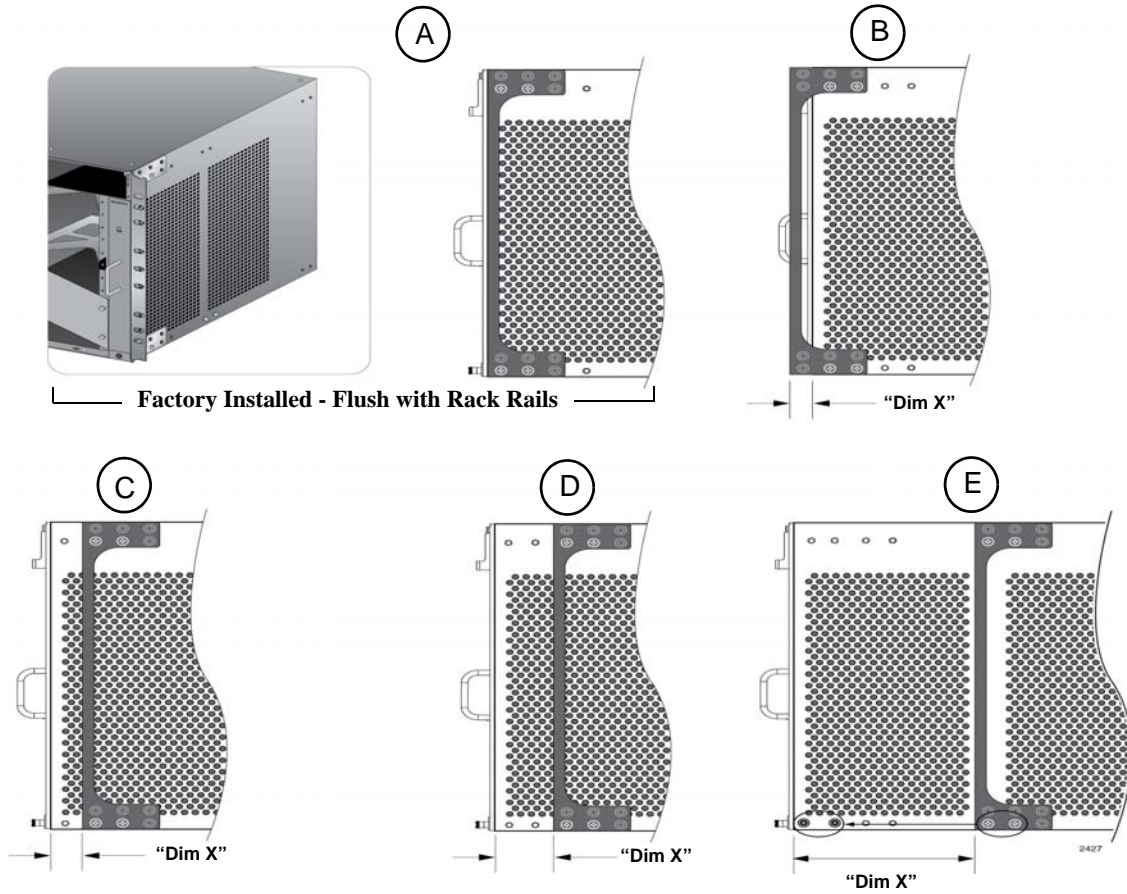
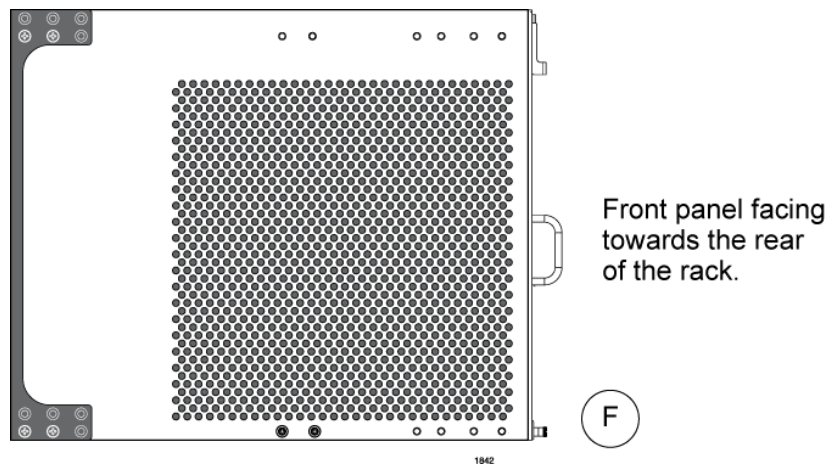

Figure 37. Rack Mounting Bracket Locations
Figure 38. Rack Bracket Locations for Reverse Position of Chassis
You adjust the brackets by removing them and re-installing them in different positions on the sides of the chassis. The different bracket positions are listed in Table 28 and illustrated in Figure 37 on page 109 and Figure 38 on page 109. Please review the following information before moving the brackets:
- To install the rack mount brackets in position “E,” you have to remove the two chassis screws from the bottom-middle section of the chassis and re-install them in front where the rack mount bracket screws were originally, as shown in Figure 37 on page 109.
- The dimension (X) between the front panel and the rack rails is given for each rack mounting bracket position in Table 28.